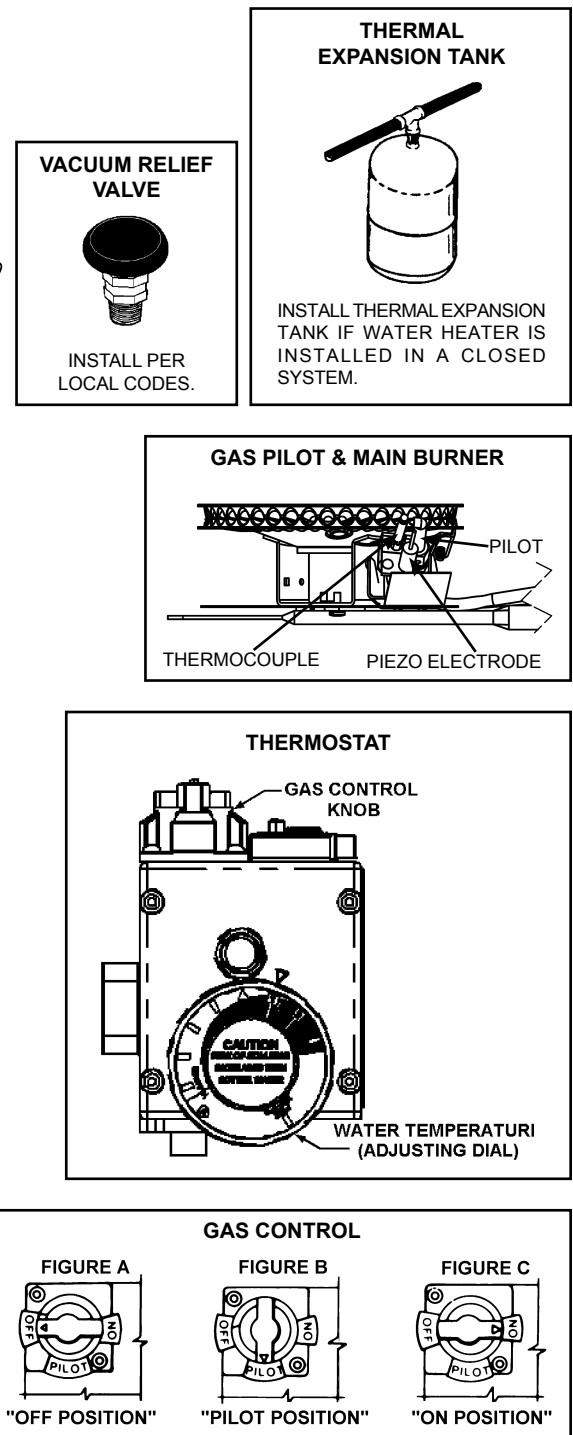

FIGURE 1
4. Carefully plan the place where you are going to put the water heater. Correct combustion, vent action, and vent pipe installation are very important in preventing death from possible carbon monoxide poisoning and fires, see Figures 1 and 2. Examine the location to ensure the water heater complies with the “Locating the New Water Heater” section in this manual.
Replacement parts may be ordered through authorized servicers or distributors. When ordering parts, provide complete model and serial numbers (see rating plate), quantity and name of part desired (as listed in Figure 1). Standard hardware items may be purchased locally.
Should you choose to apply an insulation blanket to this heater, you should follow these instructions (See Figure 1 for identification of components mentioned below). Failure to follow these instructions can restrict the air flow required for proper combustion, resulting in fire, asphyxiation, serious personal injury or death.